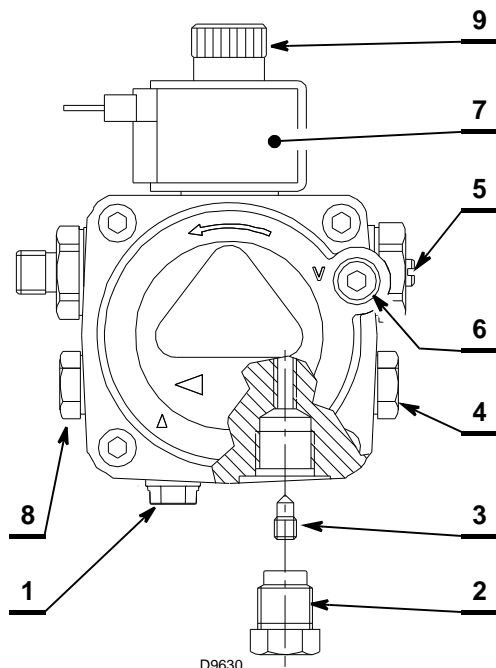

Fig. 9
- The pump (Fig. 9) is designed to allow working with two pipes.
It is sufficient to loosen the vacuumer connection 6) (Fig. 9) and wait until oil flows out.